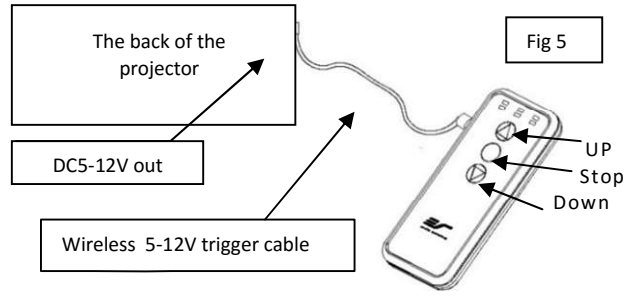

Fig 5
6. Wireless 5-12 volt trigger (Item F, Fig 5): The RF remote control serves as a dual purpose, independently as a handheld remote control, or in conjunction with the Wireless 5-12 volt trigger cable. The radio frequency technology can be programmed to send a wireless signal to synchronize its drop/rise with the projector's power cycle.